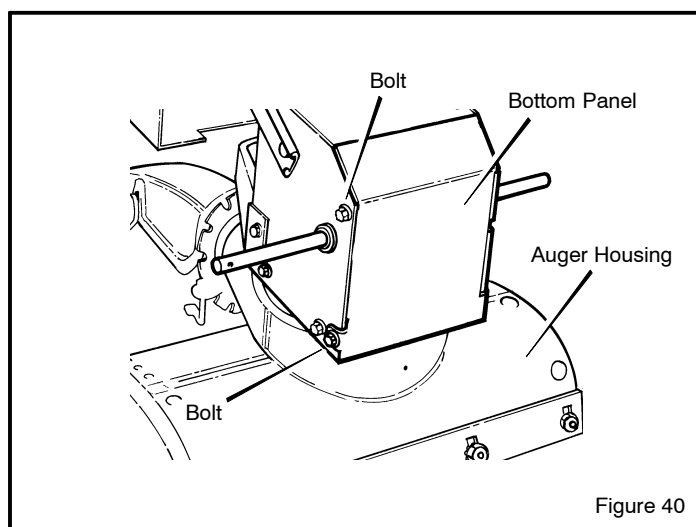

Figure 40
2. Loosen the **bolts** on each side of the **bottom panel** (see Figure 40).
10. Install the **bottom panel** (see Figure 40).